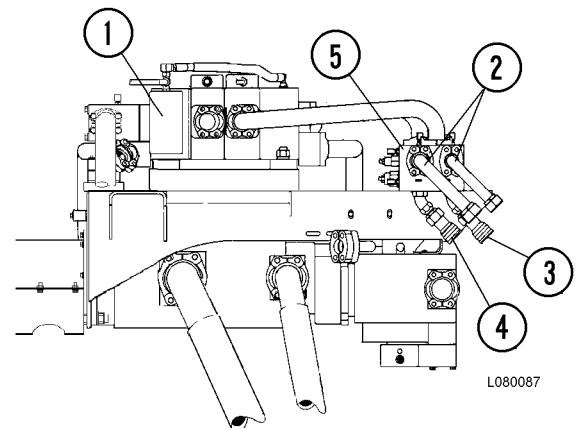

FIGURE 30-4. PUMP MODULE, HOSE HOOKUP
In the following example, Figure 30-4 illustrates a typical hookup from the good truck. The disabled truck may be the same truck model or a different Komatsu truck model.
1. With the good truck parked as close as possible to the disabled truck, attach a hose from the **power up** quick disconnect (4, Figure 30-4) to the **power down** circuit of the disabled truck. The hose must be rated to withstand 17,000 kPa (2500 psi) or greater pressure.
2. Connect another hose from the **power down** quick disconnect (3) to the **power up** circuit of the disabled truck.
*NOTE: If both trucks are the same model, the hoses will be installed at the quick disconnects shown in Figure 30-4 and **will be crossed** when connected.*